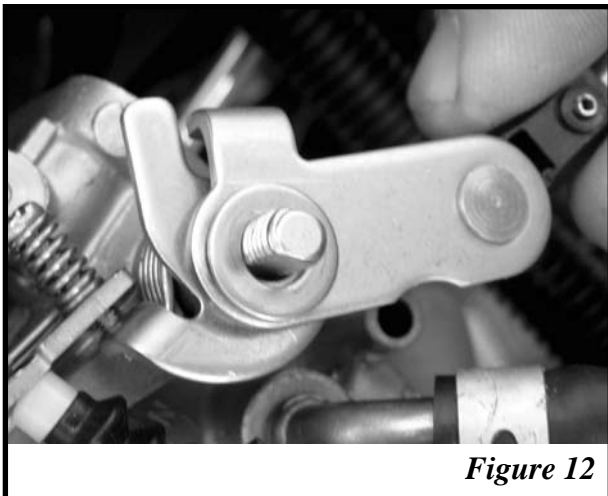

Figure 12
4. Washer (Figure 12)
Install the first washer. See figure 12.